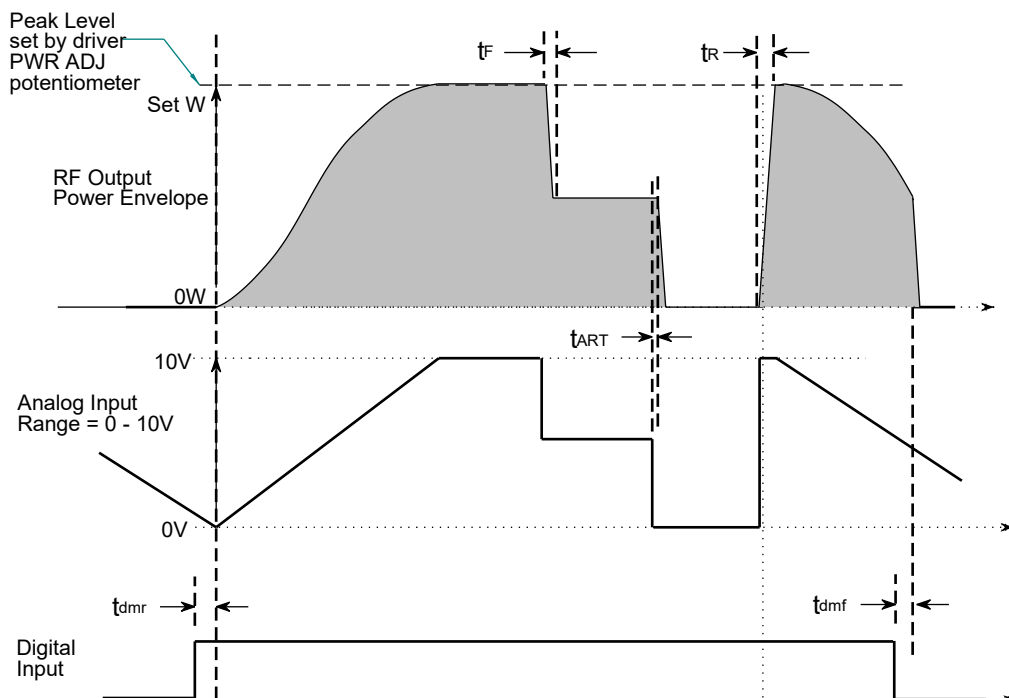

Figure 3: Typical RF Output Waveforms
- 3.14 The driver is now ready for use. Figures 3 and 4 illustrate typical modulation characteristics.